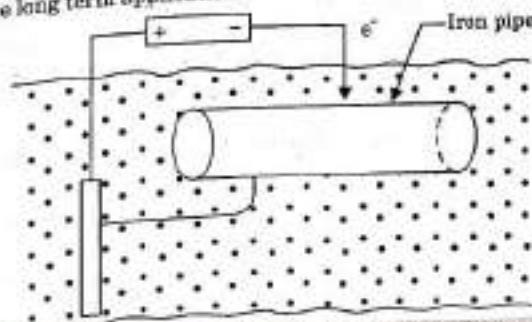

Fig. 3.17.3. Impressed current cathodic protection.
- b. **Impressed current cathodic protection :** This method known as electrolytic method of cathodic protection, the object to be protected is made cathode by connecting it to negative terminal of DC source. The positive terminal is connected to an insoluble anode like graphite, scrap iron or platinum. The objective is to apply the current from an external source (insoluble anode) in the opposite direction to that of the corrosion current. The insoluble anode is buried in the soil or in the conducting medium adjacent to the metal which is to be protected (Fig. 3.17.3.). These are placed in such a manner that a uniform potential is obtained over the entire metal surface. The electrons flow to the metal structure